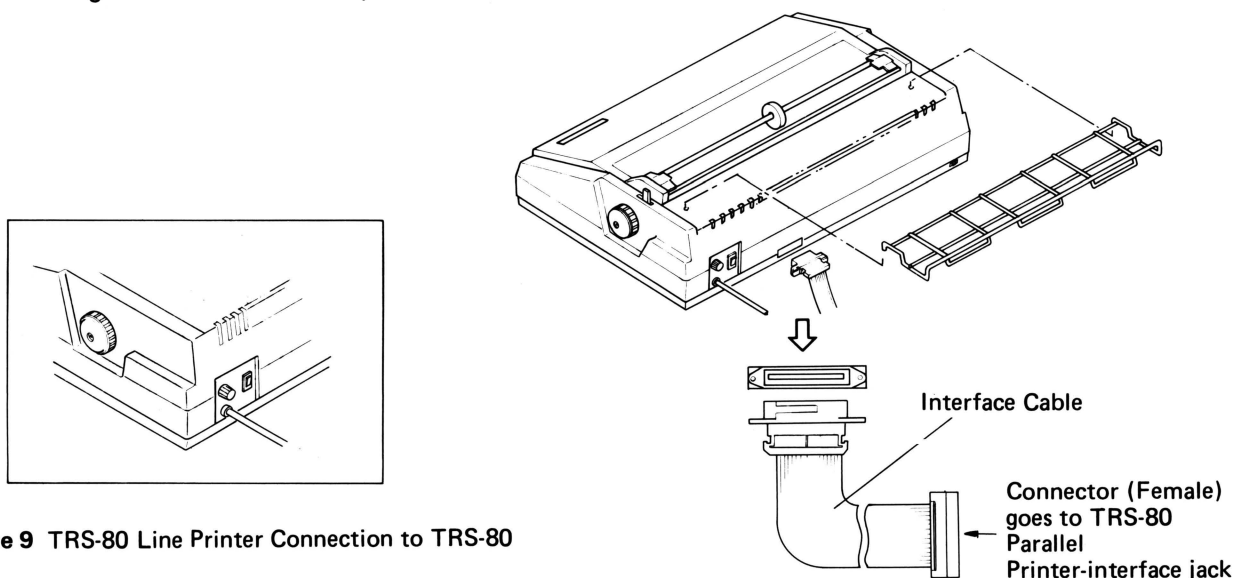

Figure 9 TRS-80 Line Printer Connection to TRS-80
8. Install the cable for connection to Computer. Make sure that one end is provided with molded male plug. Insert this plug into connector in the rear of the Printer. Do not force the plug. If it won't go on one way, turn it over and try again. (See Fig. 9)